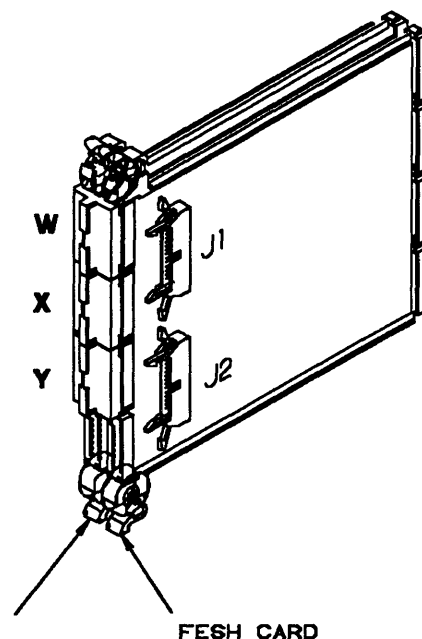

Figure 5-59. FESH Card
5. Referring to Figure 5-59, exchange the FESH card as follows: